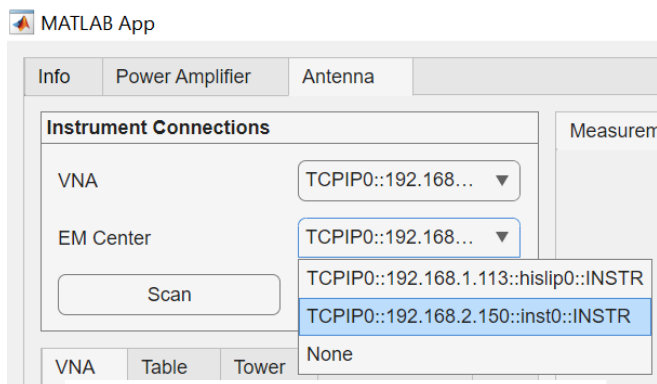

Figure 3: Filled Address Dropdown Menu
- Once complete, the **Address** dropdown menu will be populated with detected instrument addresses, as shown in **Figure 3**.